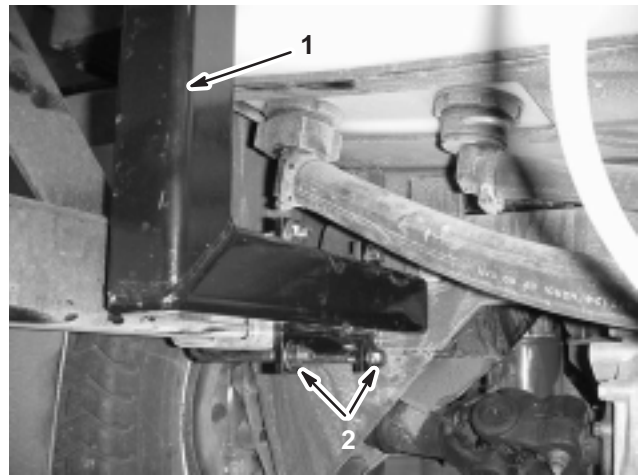

Figure 2
2. Install the left hose reel support (support without the spray gun holder tube on it) to the vehicle frame using 2 U-bolts and 4 flange nuts (3/8 inch). The support should wrap around the rear end of the tank (Fig. 2 and 3). Do not fully tighten the flange nuts to allow for later adjustment.